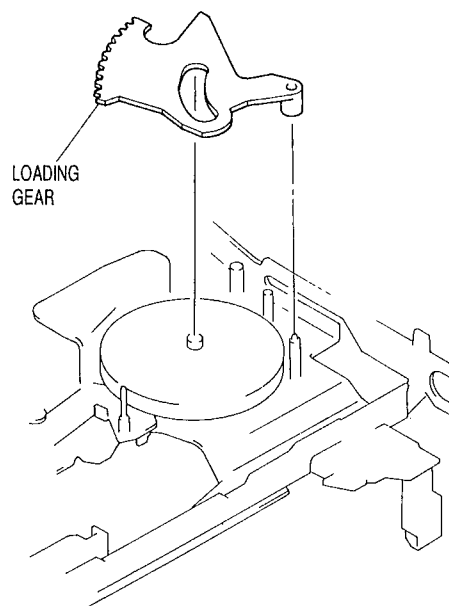

Fig. 3-33
- 1) Pull out the loading gear. (See Fig. 3-33)